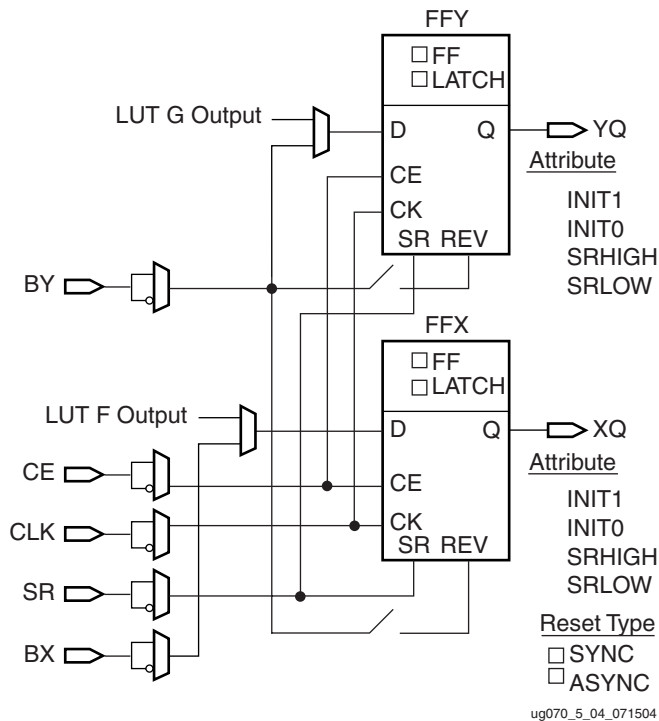

Figure 5-4: Register/Latch Configuration in a Slice
In addition to clock (CLK) and clock enable (CE) signals, each slice has set and reset signals (SR and BY slice inputs). SR forces the storage element into the state specified by the attribute SRHIGH or SRLOW. SRHIGH forces a logic High when SR is asserted. SRLOW forces a logic Low. When SR is used, an optional second input (BY) forces the storage element into the opposite state via the REV pin. The reset condition is predominant over the set condition. (See Figure 5-4.) The truth tables for SR are described in “ILOGIC Resources” in Chapter 7.